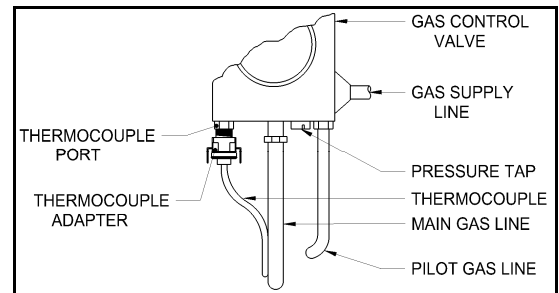

Figure 11
1. Remove thermocouple from gas control valve. (See Figure 11)